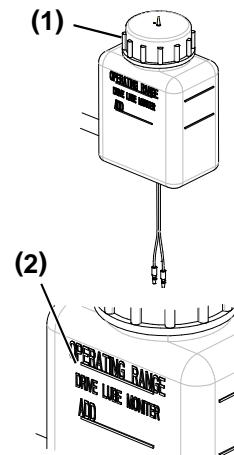

Figure 3
1. Remove the oil reservoir cap **(Figure 3, (1))**.
2. Fill the oil reservoir to the OPERATING RANGE **(Figure 3, (2))** (full) line with specified fluid. **NOTICE: Do not overfill.**